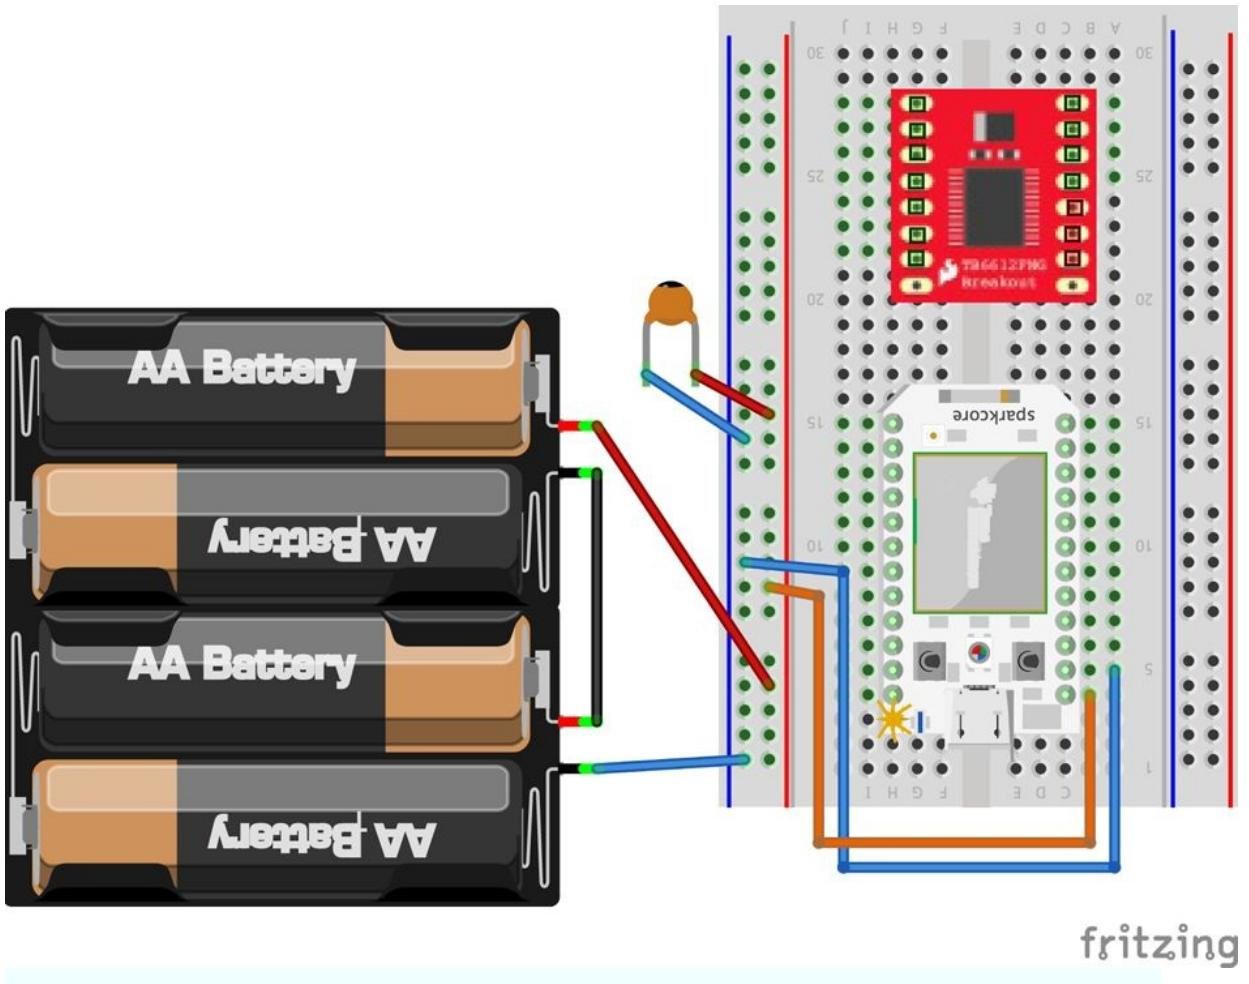

Figure 3-19. Wiring the power for the boat
2. Connect the battery holder to the breadboard, as shown in Figure 3-19. Plug the red wire of the battery holder into one of the side columns of the breadboard with a + sign on it. This column will be your power. Now plug the black wire into the column of the breadboard with a - sign on it, right next to it. This will be your ground. Whenever you need access to power or ground for your Spark, driver, or motor, we can connect to these strips on the breadboard.
4. Once your capacitor is in place, you'll connect the power to your Spark. This time, instead of running the power and ground directly from the battery, you'll use jumper wires to connect the power and ground columns of your breadboard to the VIN and GND pins on the Spark. The Fritzing diagram in Figure 3-19 shows this.